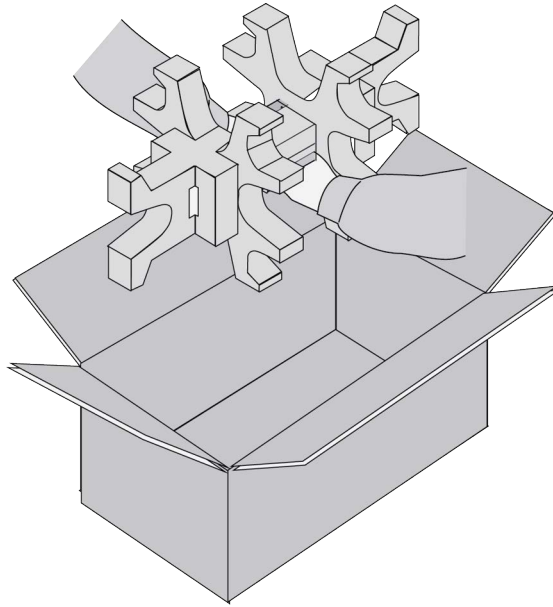

Figure 55. Removing the Power Supply from the Shipping Box
3. Lift the power supply from the shipping box and place it on a level, secure table. Refer to Figure 55 on page 125.